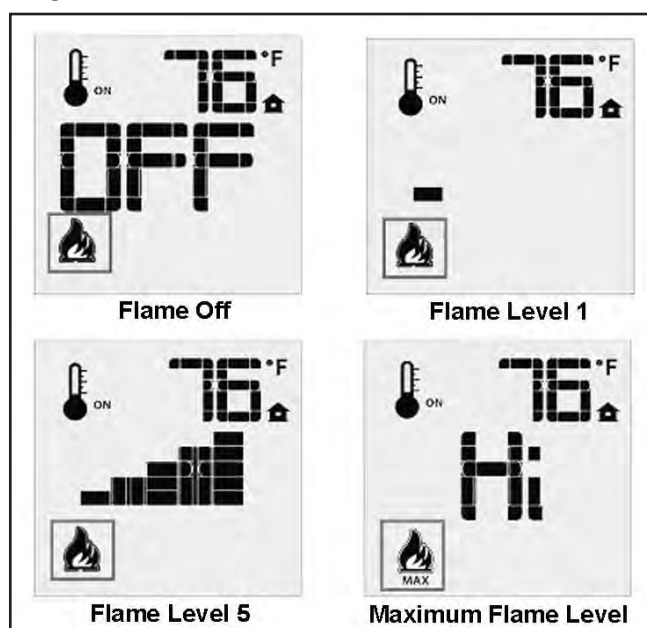

Figure 64: Remote Control's Flame Levels.
The Proflame GTMF has six (6) flame levels. With the system on, and the flame level at the maximum in the appliance, pressing the Down Arrow Key once will reduce the flame height by one step until the flame is turned off. The Up Arrow Key will increase the flame height each time it is pressed. If the Up Arrow Key is pressed while the system is on but the flame is off, the flame will come on in the high position (refer to Figure 64). A single “beep” will confirm reception of the command.